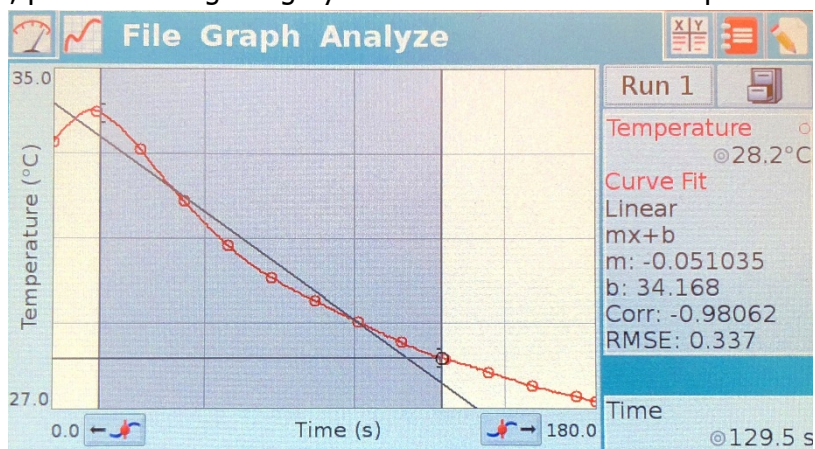

Fig. 1: Selecting "cooling" data to calculate a trendline
10. On the window with the graph, press and drag the grey box around the data that represents the "cooling" portion of the curve, where the slope was steadily decreasing. Go to Analyze, then Curve Fit. Change the Fit Equation in the drop-down menu to Linear. Click OK. The slope (m) and y-intercept (b) are shown on the right of the graph (Fig. 1). Copy these values into a trendline equation on your data sheet as "cooling".